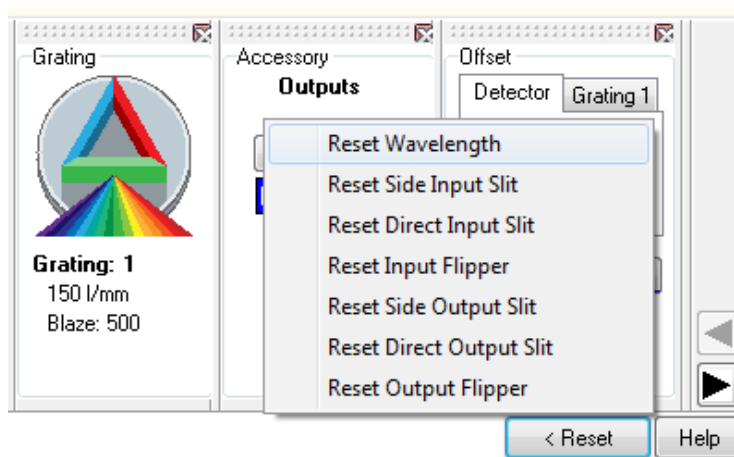

Figure 2 – Reset Wavelength can be selected through the Reset Button in Solis
- Have you performed a Wavelength Drive Reset? (Figure 2)